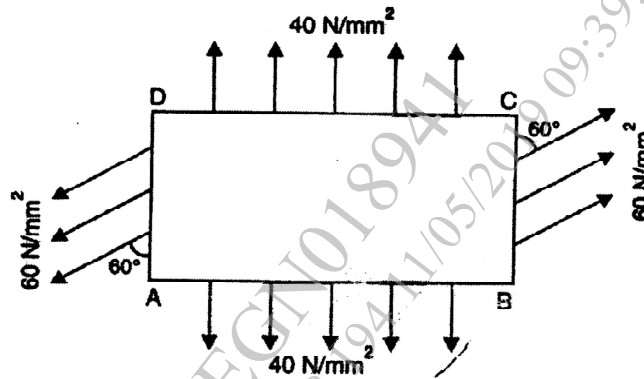

Fig8
8. (a) A point in strained material is subjected to stresses as shown in fig.8. Find principal stresses, maximum shear stress and positions of principal plane